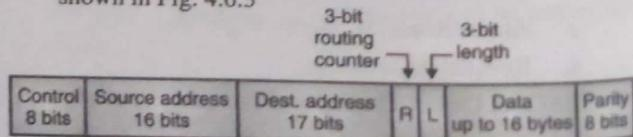

Fig. 4.6.5 : KNX telegram Format
- For routing of messages, KNX uses telegrams throughout the network of KNX nodes. The format is shown in Fig. 4.6.5